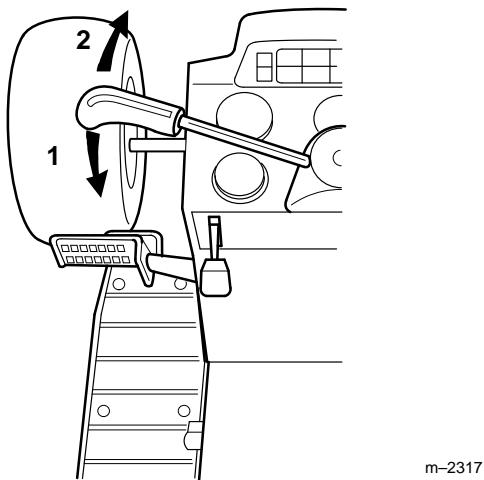

Figure 21
The attachment power lift (Fig. 21) is used to raise and lower attachments.
2. Pull the lift lever in the "UP" direction to raise the attachment lift (Fig. 21). This will lift and hold the attachment in the up, or raised position.
2. Push the lift lever in the "DOWN" direction to lower the attachment lift (Fig. 21). This will lower the attachment lift.